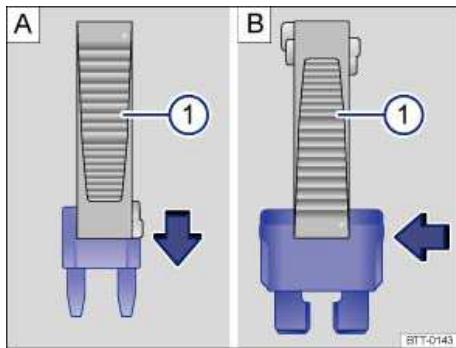

Fig. 203 Removing or inserting a fuse using the plastic tweezers.
- For *small fuses*, slide the tweezers ⇒ fig. 203 (1) onto the fuse from the top **A**.
- For *larger fuses*, slide the tweezers ⇒ fig. 203 (1) onto the fuse from the side **B**.
- If the fuse is blown, replace the fuse with a new fuse of the *same amperage* (same color and same imprint) and same overall size ⇒ ①.